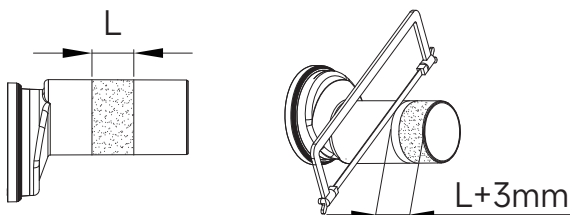

Figure 3
- ☐ As shown in the figure, the distance between the markings on the connecting pipe is L. Cut the connecting pipe at the specified location. (Figure 3)